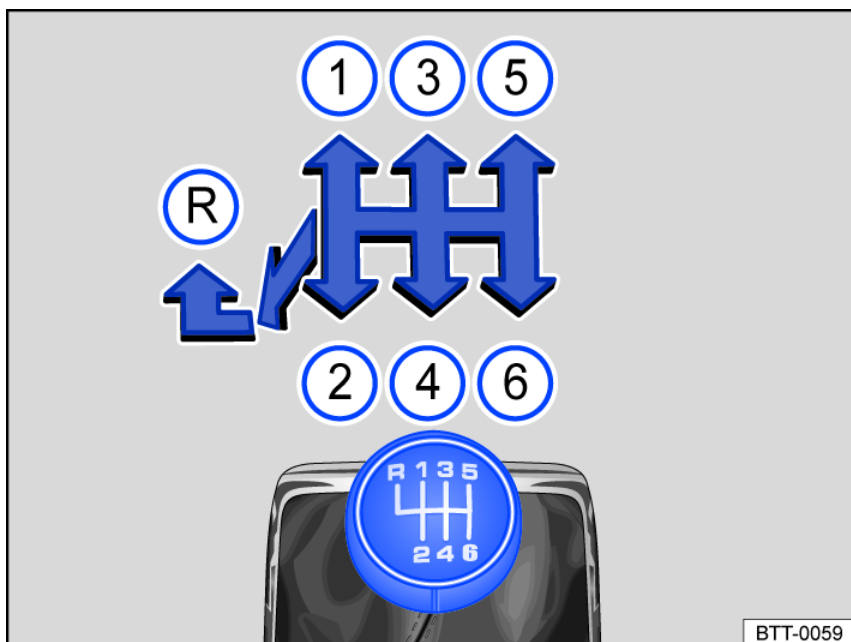

Fig. 100 Gear shift pattern for 6-speed manual transmission.
- Push the gearshift lever all the way to the left and then forward into the reverse gear position fig. 100 □.